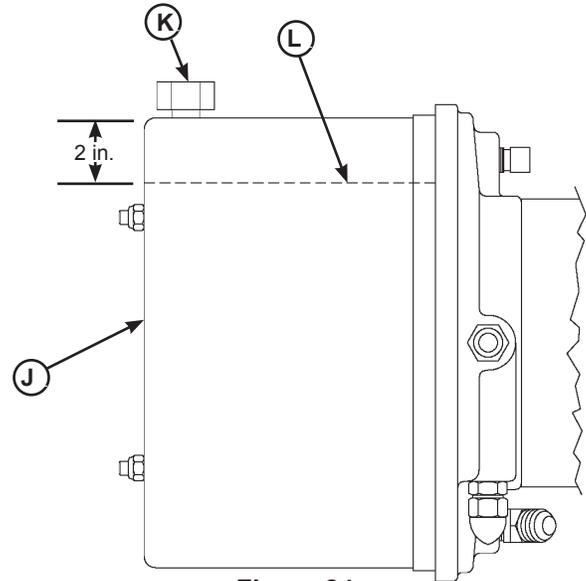

Figure 24
- Check reservoir fluid level (L, see Figure 24):
3. Remove breather cap (K).
4. Measure fluid level. The fluid level should be approximately 2 in. (51 mm) from top of reservoir (L) with platform at the below-dock position.